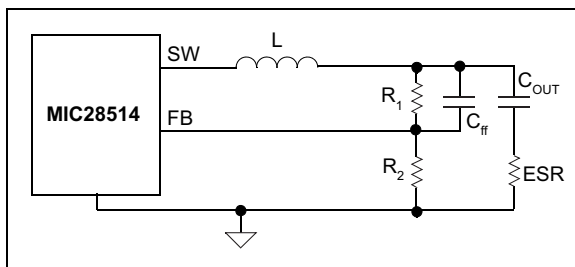

FIGURE 5-3: Inadequate Ripple at FB.
2. Inadequate ripple at the feedback voltage due to the small ESR of the output capacitors. In this situation, the output voltage ripple is fed into the FB pin through a Feed-Forward Capacitor, C_{ff} , as shown in Figure 5-3. The typical C_{ff} value is between 1 nF and 22 nF.